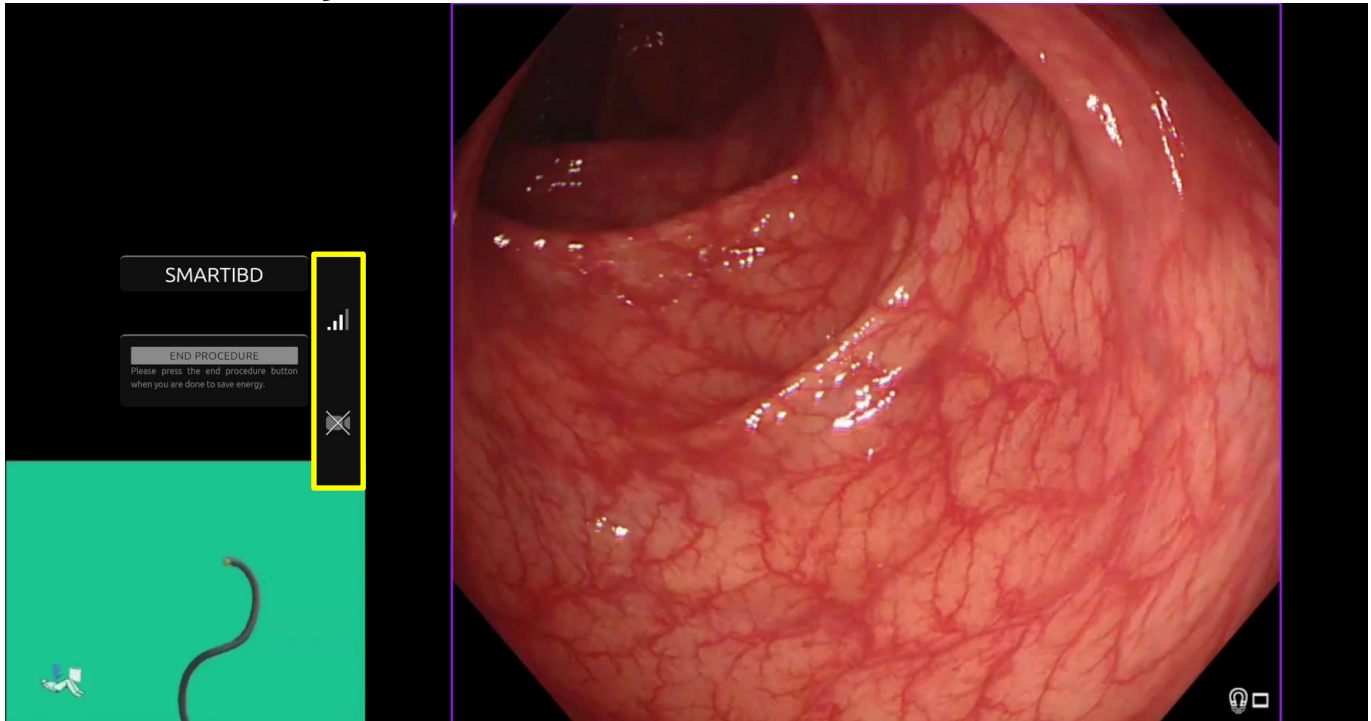

Figure 1: Notification Symbols
1. The notification symbols panel is displayed on the left-hand side of the endoscopy image area, as shown in the highlighted yellow region in the figure 1.